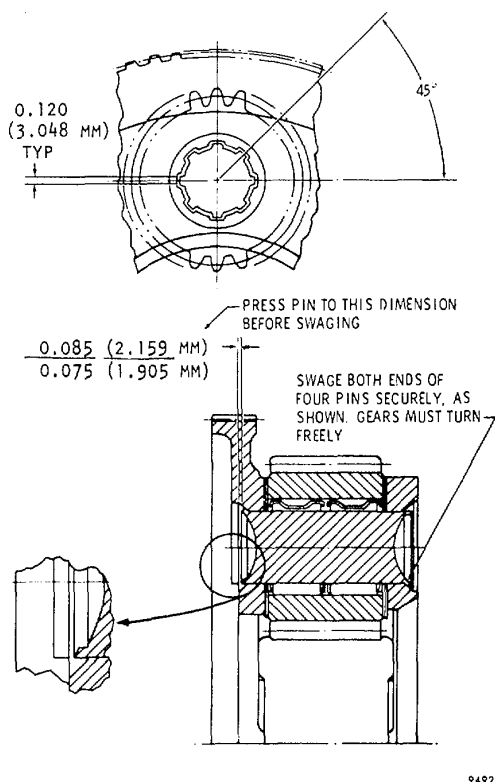

Fig. 6.69 Components of center planetary carrier assembly
- (1) Install two bearings 21 into the bore of each pinion 20. Place a steel thrust washer 22 (first) and a bronze thrust washer 19 (second) onto each face of pinions 20.
- (2) Position carrier 18 in a press, and place a pinion group (as assembled in (1), above) into the carrier. Align the parts of the pinion group with the pinion pin holes in the carrier.
- (3) Install pinion pin 17 and press it through the carrier and pinion group to the dimension shown in figure 6-69.
- (4) Install the remaining pinion groups and pins in the manner described above.
- (5) Support each pinion pin on an 0.812-inch (20.62 mm) (approx.) anvil. Using a suitable punch, swage the pin firmly against the carrier to form the pattern shown in figure 6-69. After swaging, each pinion must rotate freely.